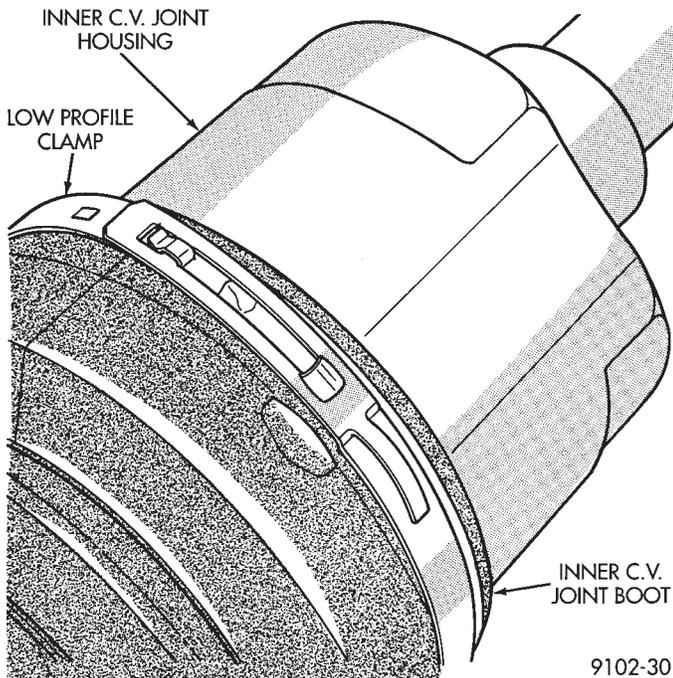

Fig. 17 Boot Clamp Installed
(1) Install small clamp and inner C/V joint housing according to the procedures outlined in this manual.
(2) Position the boot over the outer C/V joint.
(3) Slide the large band clamp over the boot and position it evenly in the groove on the inner C/V joint boot. (Fig. 17).